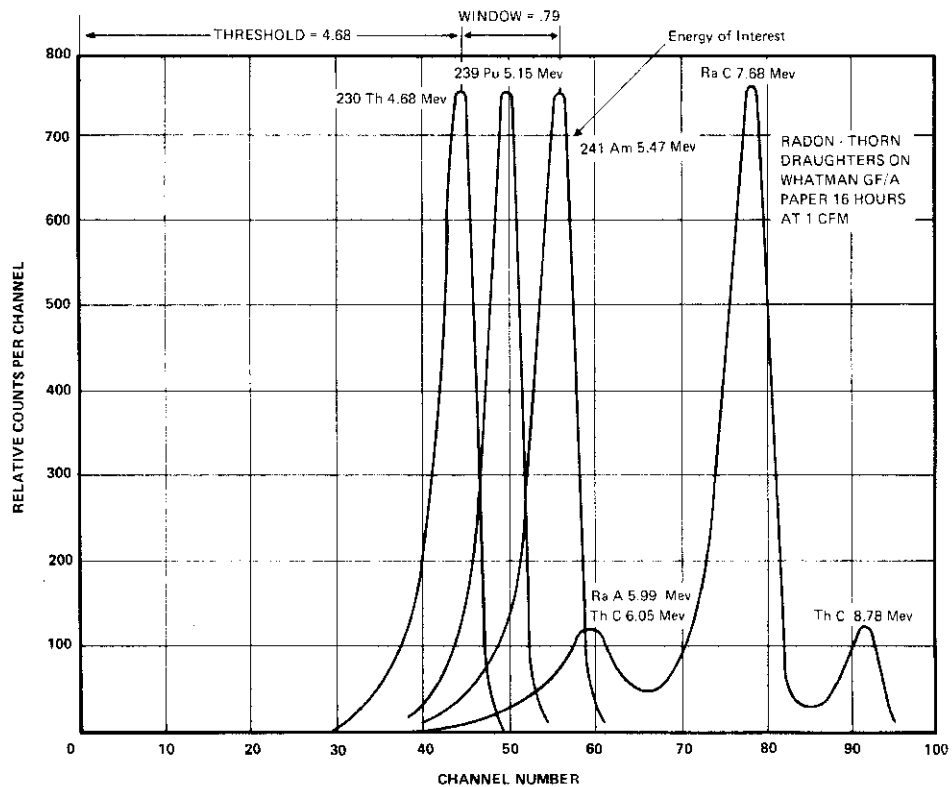

Fig. 5 Typical Pulse Height Spectrums
5. The 'THRESHOLD' and 'WINDOW' adjustments of the ALPHA-3 correspond to a channel number on Figure 5. The optimum setting for Pu^{239} , for example, would be a 'THRESHOLD' setting equivalent to channel 4.65 and a 'WINDOW' setting equivalent to 10 channels in width, which would extend to channel 56.5. With these settings, the ALPHA-3 would count at least 90% of the Pu^{239} counts and reject everything outside these limits.
6. However, some of the counts from the radon-thoron daughter spectrum do fall within channels 46.5 to 56.5 and will be counted. In Figure 5, these represent approximately 2% of the total radon-thoron activity. The actual percentage of the total radon-thoron activity which is counted depends on the 'THRESHOLD' and 'WINDOW' settings and on the relative abundance of the various daughters.
7. The relative abundance of the RaA, RaC', ThC and ThC' depend, naturally, on their relative abundance in the air and their equilibrium condition. This also depends on how long the sample has been collating. The short half life RaA (3 min.) will reach equilibrium on the paper quite rapidly, while the RaC will take longer due to its longer apparent half life (approx. 30 min.). Likewise, the ThC and ThC1 continue to build up and will not reach equilibrium for many hours because of longer apparent half life (10.6 hours). Figure 5 shows pulse height spectra from various sources taken on a multichannel analyser connected into the ALPHA-3 at the amplifier output. The lower three are taken from plated sources placed in the sample holder of the ALPHA-3. The upper curve is from a filter paper after 25 LPM of air has been pulled for 16 hours.